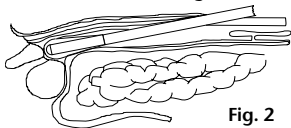
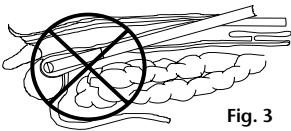

Fig. 2
Fig. 3
- Push the (bilateral) dilating balloon system forward until reaching a suitable position in the extraperitoneal space (see fig. 2). In no case should you introduce the instrument too deeply and apply too much pressure onto the balloon to avoid injury to adjacent organs and structures, e.g. the bladder. (Fig. 3)